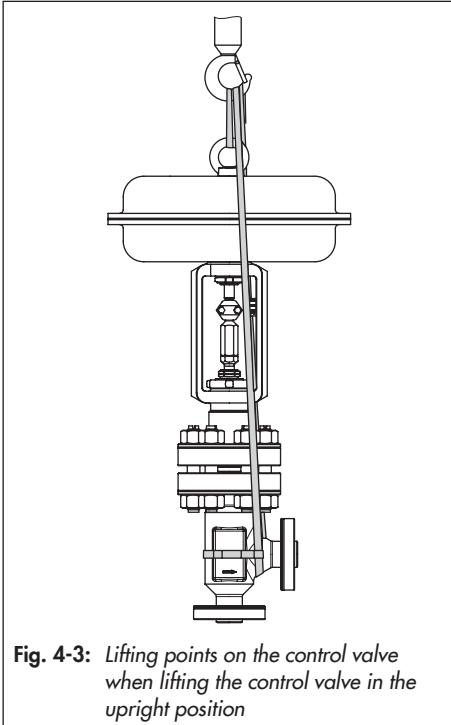

Fig. 4-3: *Lifting points on the control valve when lifting the control valve in the upright position*
The control valves can also be lifted in the upright position (see Fig. 4-3). On lifting the control valve in the upright position, make sure the following conditions are met:
1. Attach one sling to the flange of the body and to the rigging equipment (e.g. hook) of the crane or forklift (see Fig. 4-3).